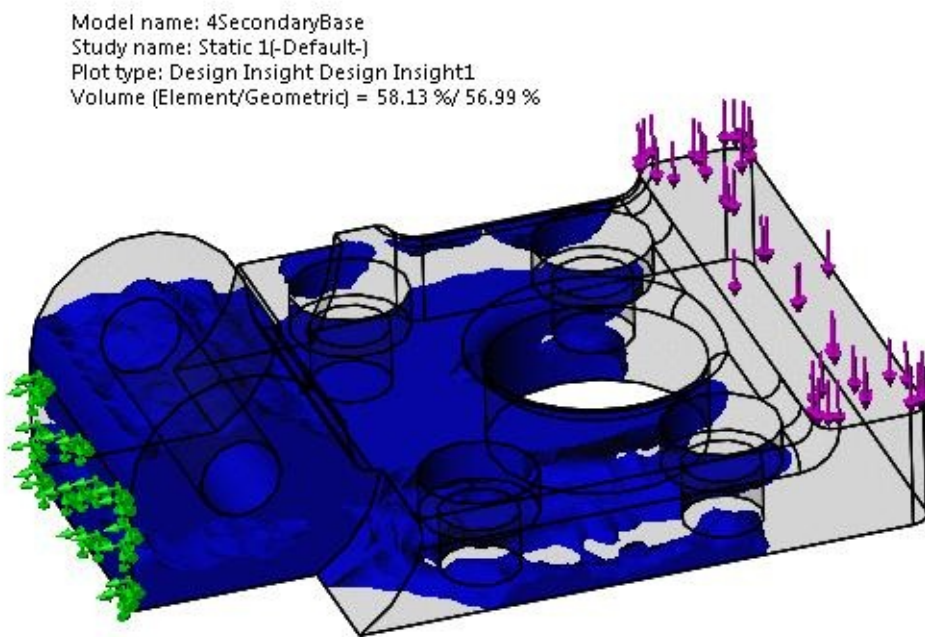

Figure-88. Preview for design insight
- Specify the desired settings in the **PropertyManager** and click on the **OK** button display the desired type of analysis result; refer to Figure-88. Note that the link for selected analysis result will be added in the **Results** node in the left area.